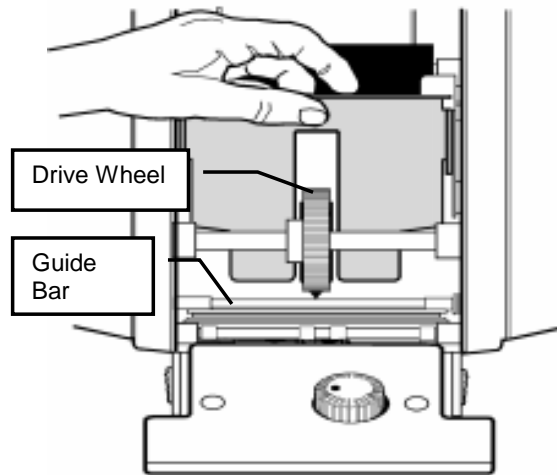

Figure 7 - Positioning the Upper Tape Plate
1. Hold the upper tape plate by its rear edge (see Figure 7), and guide it forward so that the front slot centers around the drive wheel.